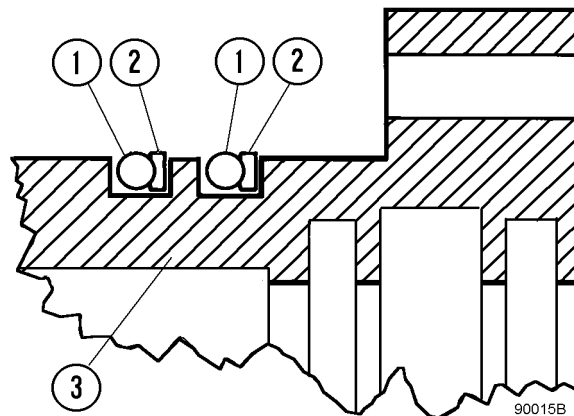

FIGURE 50-29. BACKUP RING REPLACEMENT
5. Install new O-rings (9) and backup rings (10) in their appropriate grooves on lower bearing retainer (7).
*NOTE:* The backup rings must be positioned toward the bearing retainer bolt flange with the concave side toward the O-ring as shown in Figure 50-29.